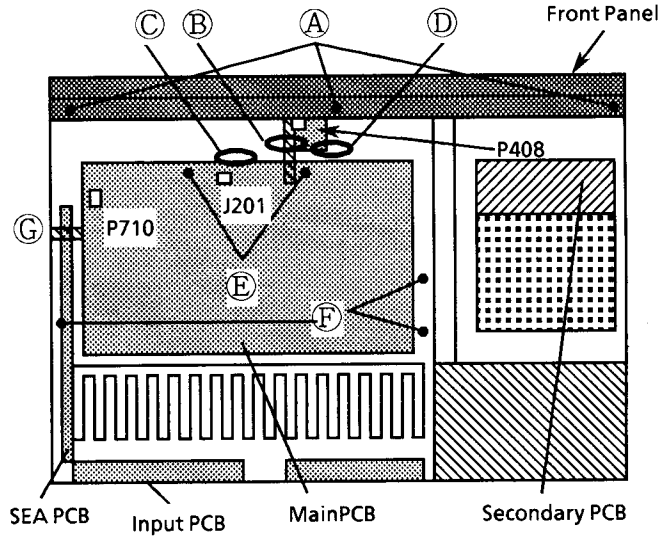

Fig 1. Top View
- 3) Cut the tie band ㉔ and disconnect the connector P408(Fig.1), then remove the MASTER VOLUME knob.
- 2) Remove the connector P710(Fig.1).
- 4) Disconnect the connector P408(Fig.1) and P407(Fig.4).